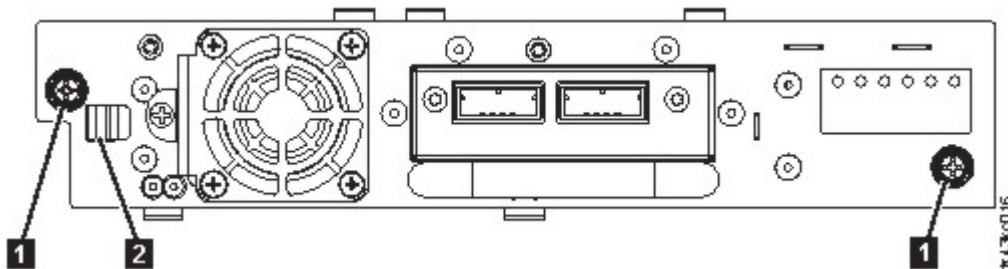

Figure 62. Unlocking the drive
- Loosen the blue captive thumbscrews (**1** in Figure 62) on the tape drive. Press the lock lever (**2** Figure 62) to the right and pull straight back on the tape drive handle while the bottom of the drive is supported to remove it from the unit.